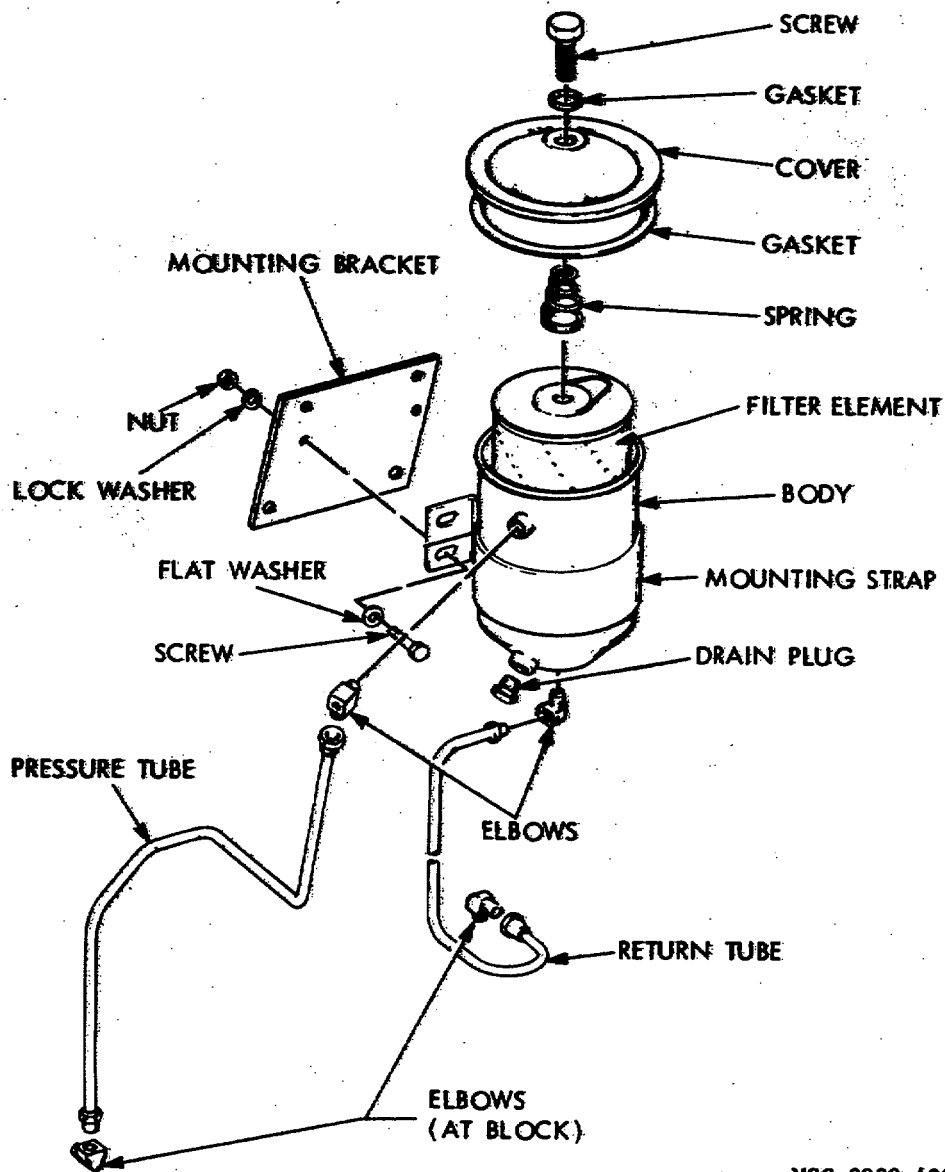

Figure 3-43. Oil filter assembly, removal, disassembly, reassembly, and installation.
- (1) Remove drain plug (fig. 3-43) and drain oil from filter body.
- (2) Remove and disassemble oil filter assembly as illustrated in figure 3-43.